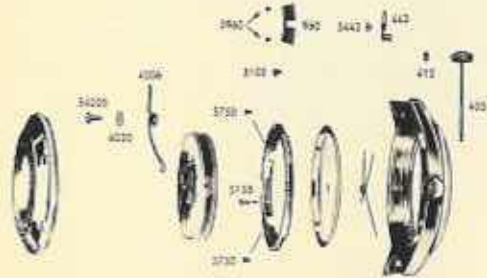

Fig. 18. Removing movement (accumulator type) from watch case.
Removing the movement from the case (accumulator type): Refer to Figure 18. Remove the back of the case, but do not remove the accumulator. Then remove the feed bridle (4036) of the accumulator and the setting lever (443) and follow the same procedure as in removing the battery type case.